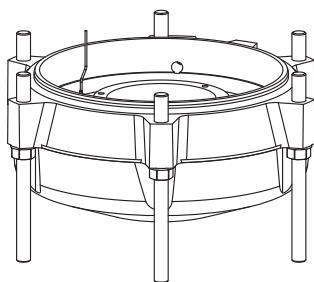

Figure 20: Removal of wear plate (J 205, J405)
7.6 Wear plate on J 205 and J 405 (Figure 20)